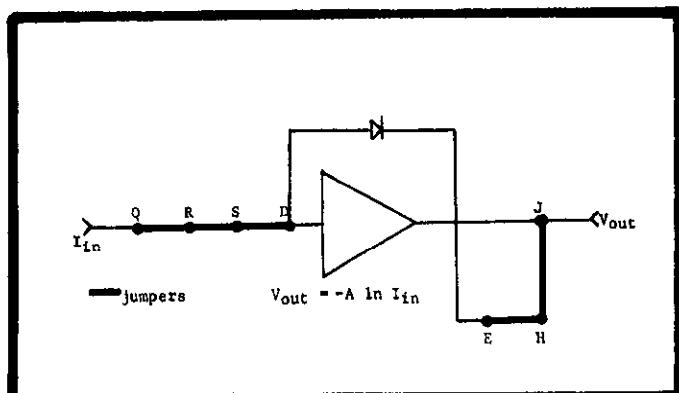

FIGURE 10. Logarithmic Current Amplifier.
2-8. LOGARITHMIC CURRENT AMPLIFIER (Figure 10).
b. The circuit for the logarithmic current amplifier is shown in Figure 10. This circuit uses a single diode and is for positive currents. The output voltage is:
d. Silicon transistors are also useful as log elements and they have better response speed.* Using the basic circuit of Figure 10, positive currents can be amplified by using an NPN transistor in the feedback loop. Negative currents can be amplified by using a PNP transistor in the feedback loop. In both operations the base of the transistor can either be connected to the collector of the transistor or to ground. Connect the collector to the input and the emitter to the output.
e. Connections for the Model 300 as a logarithmic current amplifier (Figure 10):
3. Mount the logarithmic elements in the feedback circuit as needed to amplify positive or negative input currents. Figure 10 shows a diode mounted for positive currents.